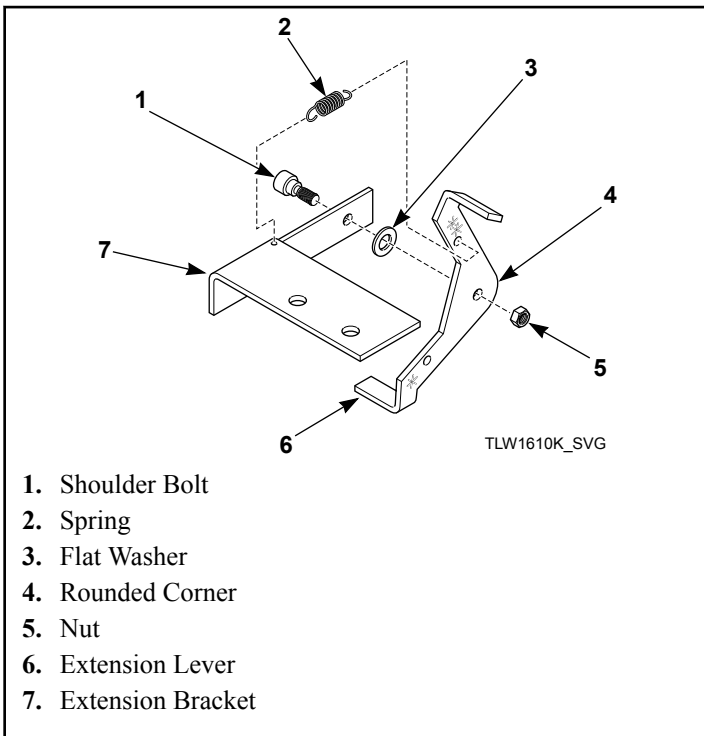

Figure 29
3. Install extension lever with rounded corner facing away from extension bracket using shoulder bolt, flat washer and nut. Refer to *Figure 29*.
4. Install spring to extension bracket with hook facing down. Install other end of spring to extension lever with hook facing left while standing in front of unit. Refer to *Figure 29*.